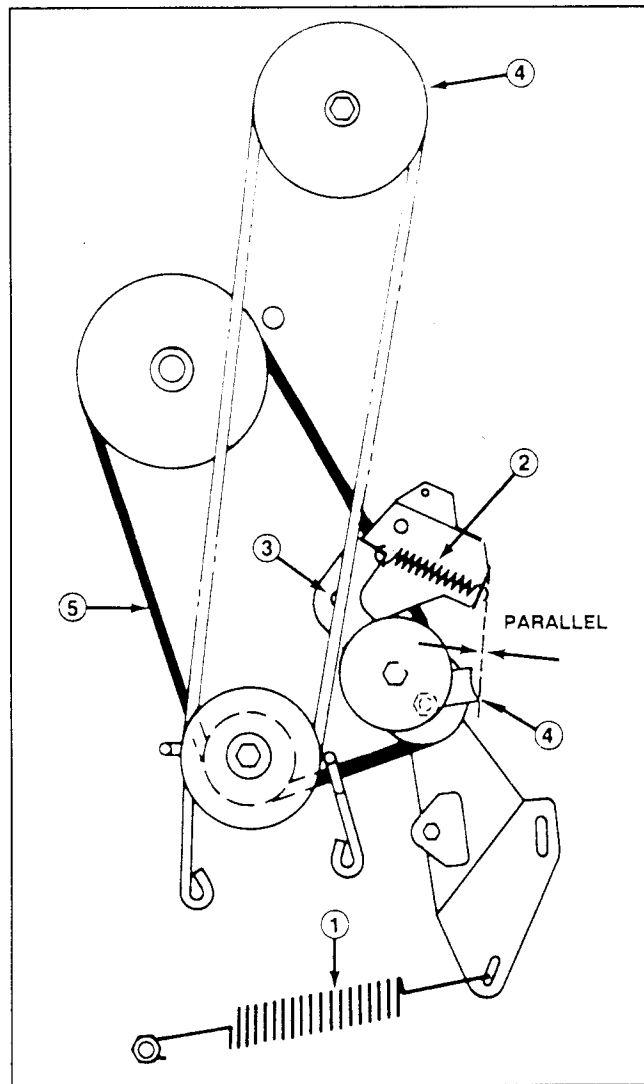

Figure 20
7. Unhook the large traction spring from the mounting screw (Fig. 20). Use caution when removing the spring as it is highly tensioned.
8. Unhook the idler spring from the idler bracket (Fig. 20).
9. Remove the locknut and washer securing the idler bracket to the frame and remove the bracket (Fig. 20).
10. Loosen the locknut on the pulley until the belt guide can be removed (Fig. 20). Remove the belt from all pulleys.
- Note:** When reinstalling the belt guide to the idler pulley, make sure the edge of the belt guide is parallel to the belt as shown in Figure 20.